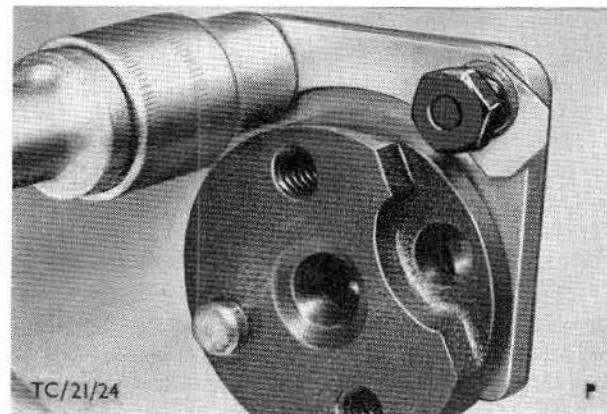

Fig. 44. Attach camshaft thrust plate.
37. Oil camshaft bearings, camshaft and thrust plate. Insert camshaft from front. Attach thrust plate and torque as specified and lock bolts with lock tabs, Fig. 44.